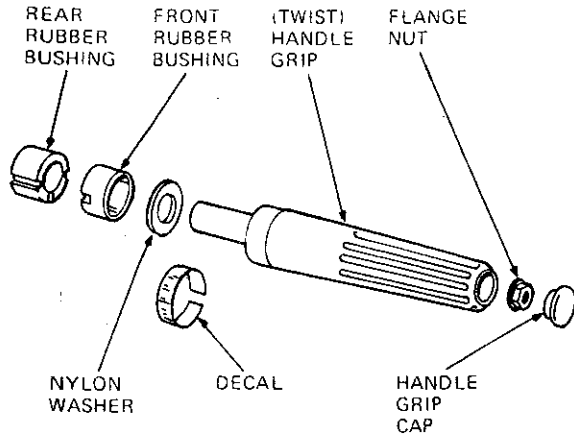
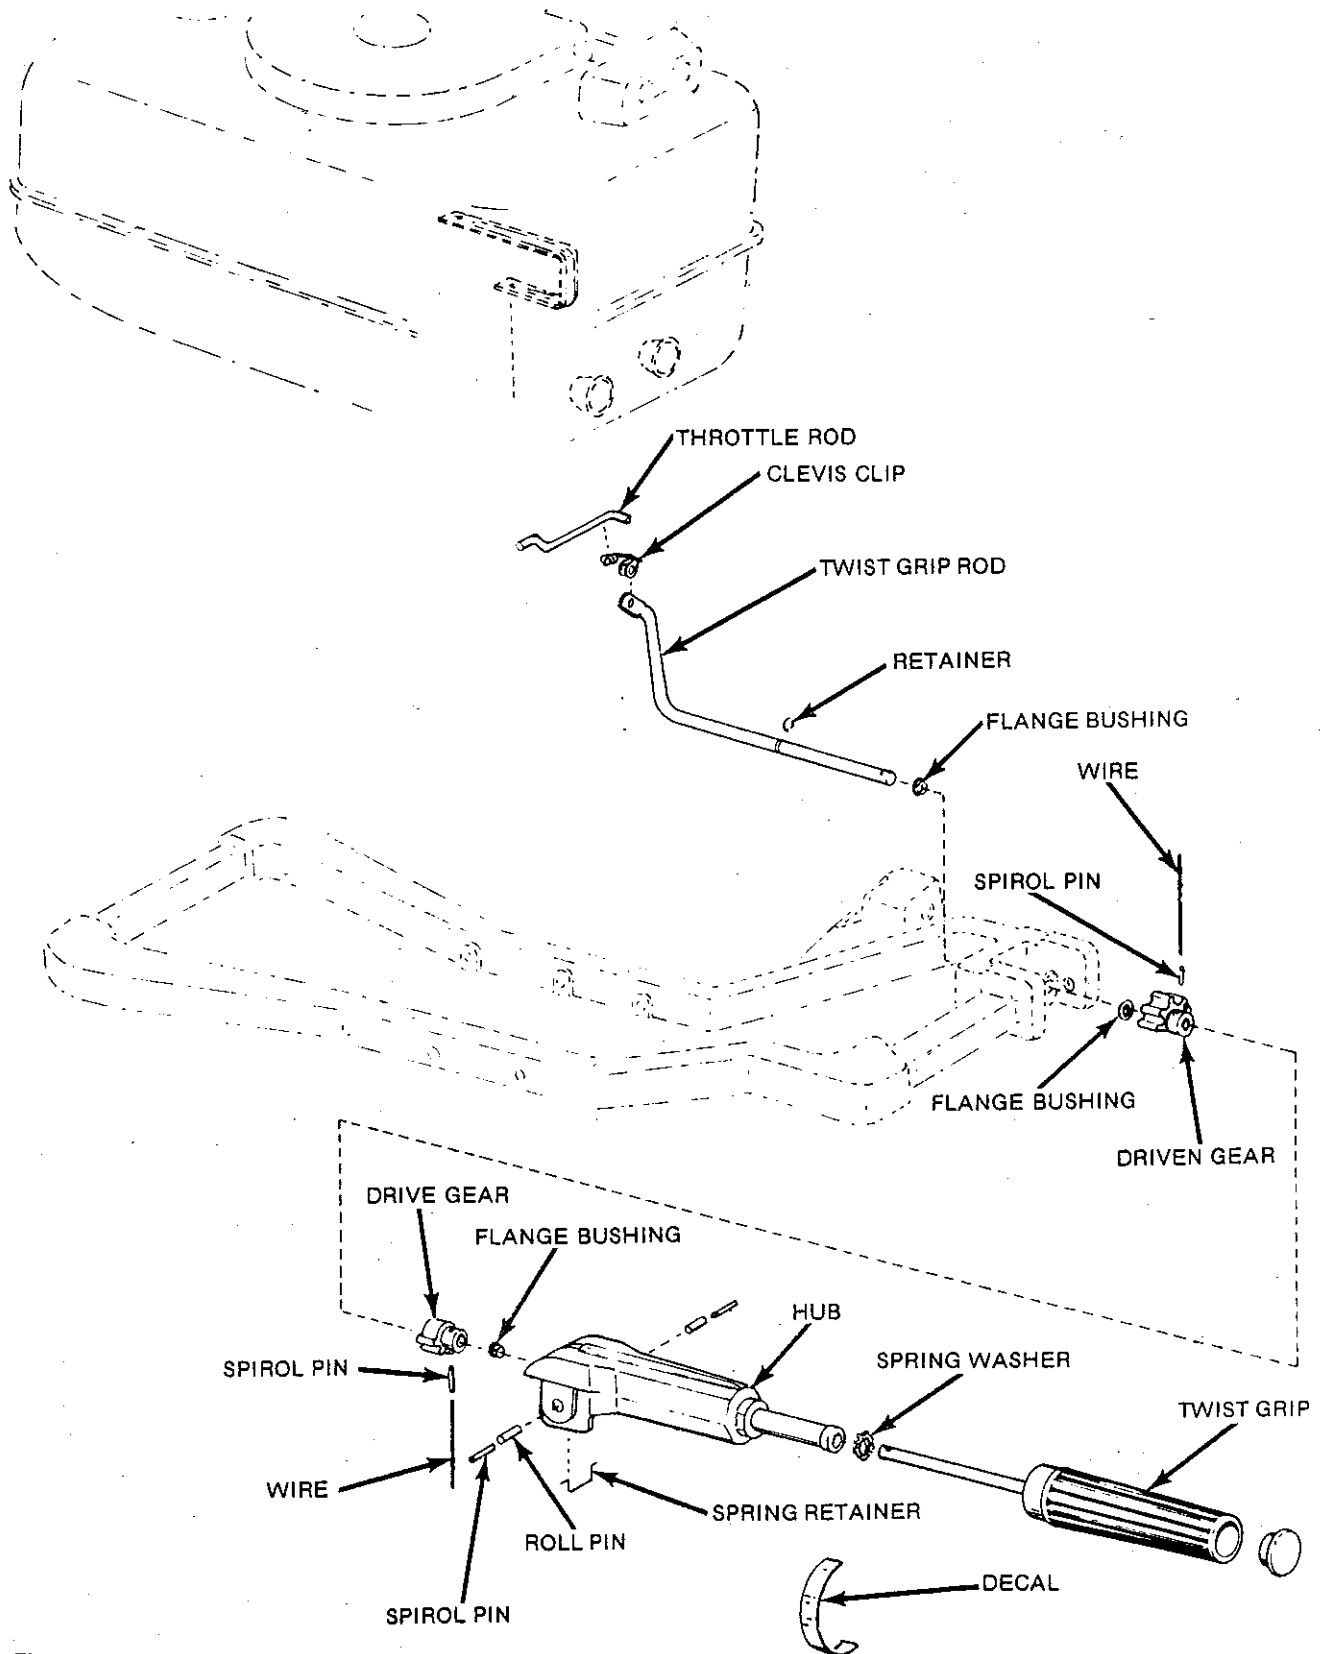

Figure 32
Figure 36
- (1) On models manufactured prior to 1976 proceed as follows (see Figure 32):
- (2) On models manufactured in 1976 proceed as follows (see Figure 32):
- c. Follow steps (1)-c through (1)-j for models prior to 1976.
- (3) On models manufactured after 1976 except Deluxe models manufactured during 1978 and later, proceed as follows (see Figure 36):
**9. REMOVE THROTTLE LINKAGE PARTS (Twist grip models after 1976 See Figure 36.)**